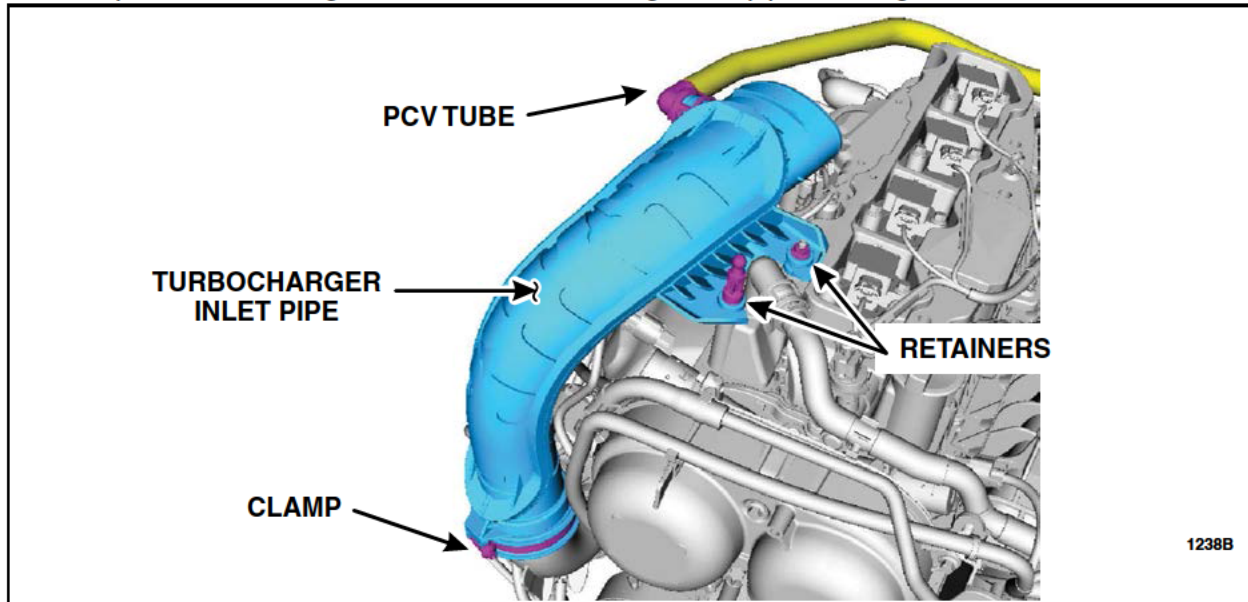

FIGURE A3
12. Disconnect the PCV tube from the turbocharger inlet pipe. Remove the retainers and loosen the clamp at the turbocharger. Remove the turbocharger inlet pipe. See Figure A3.